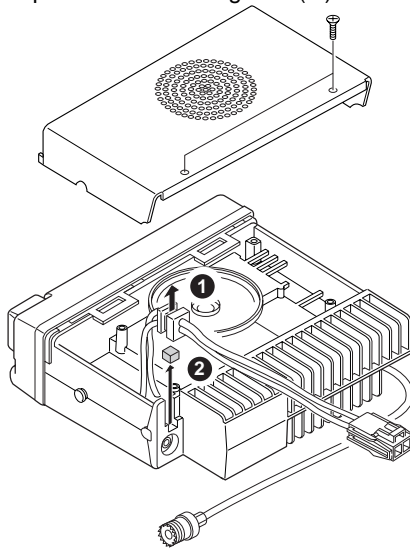

Fig. 2
- Remove the upper case of the transceiver and lift the DC cable bushing (1) from the chassis.
- Remove the pad as shown in figure2 (2).